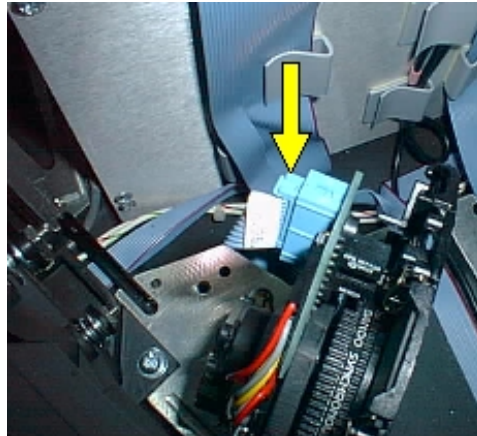

Figure 99 Unplugging the cable
7. Unplug the excitation filter wheel cable, as shown in Figure 99.